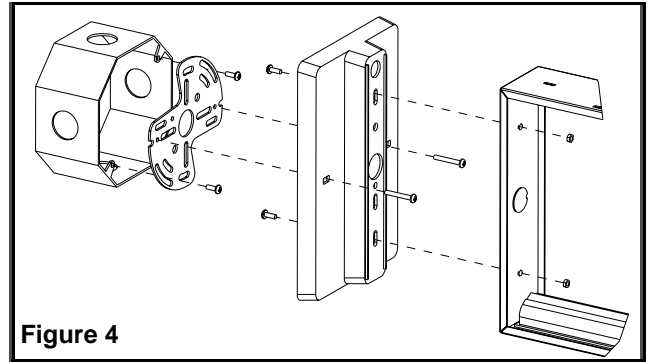

Figure 4
- d. Fasten the canopy to the exit using #8-32 x 3/8" screws and kep nuts provided (see fig. 4).